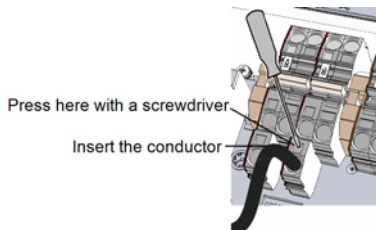

Figure 23: DC Spring-clamp terminals
- c. Insert the wire into the top opening (see *Figure 23*).